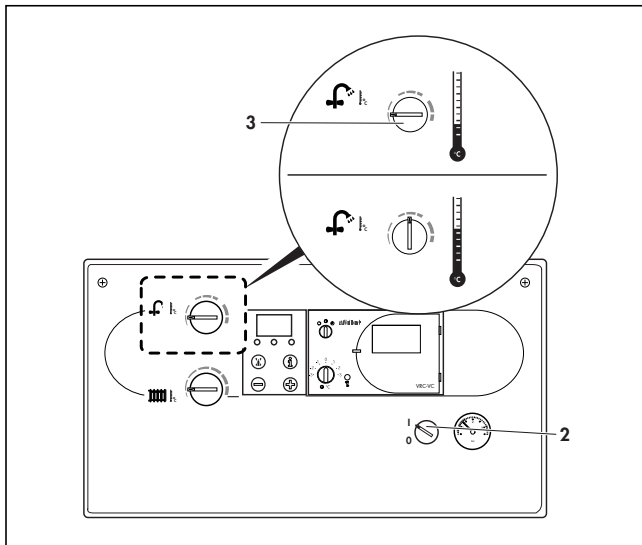

Fig. B.5: Domestic hot water supply
**!** If you live in a hard water area please do not set the control knob above the mid (12 o'clock) position to prevent excess scale formation (fig. B.5).